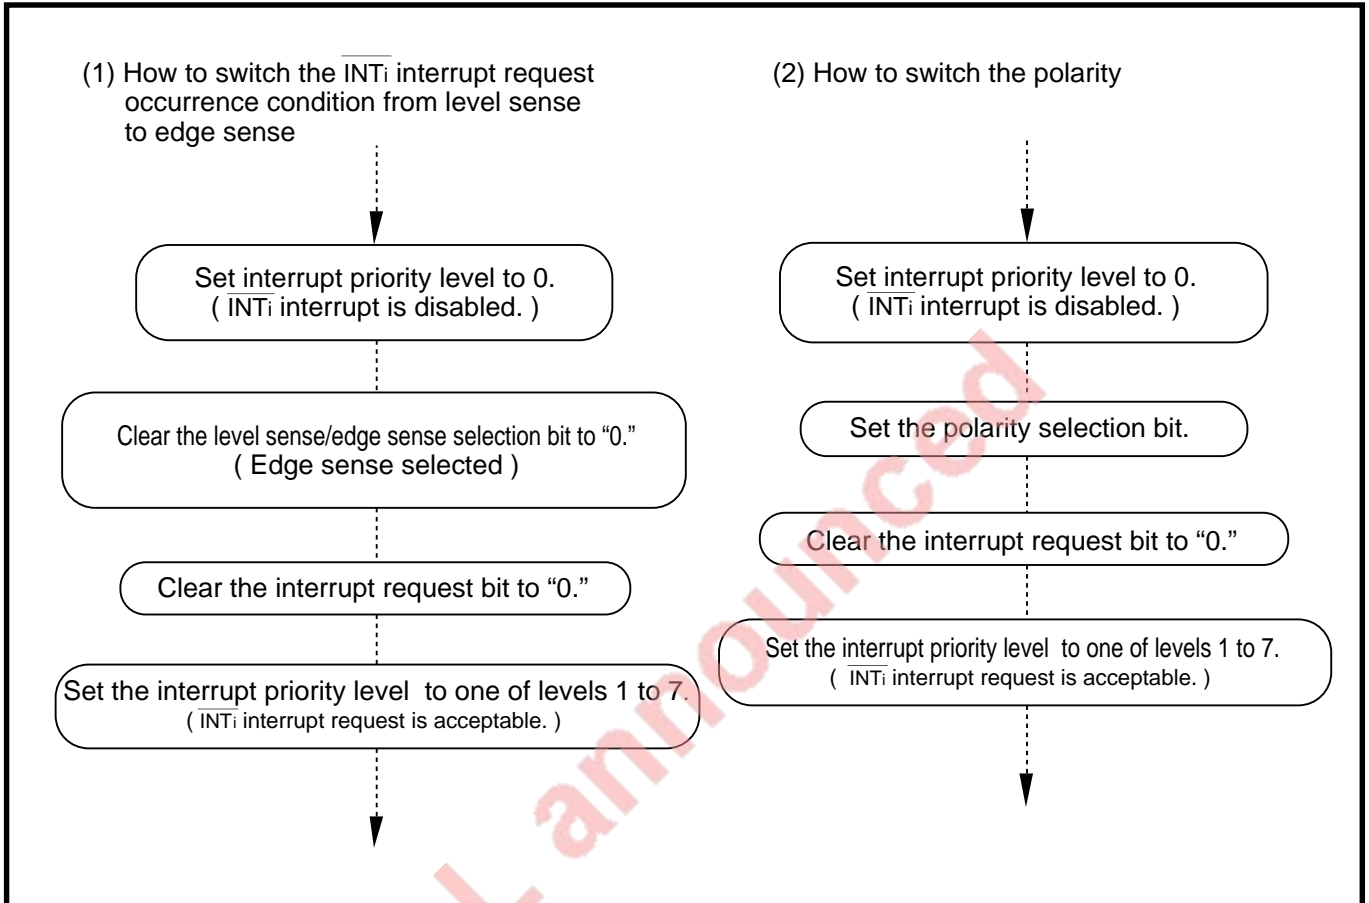

Fig. 4.10.5 How to switch  $\overline{INT}_i$  interrupt request occurrence condition
The way to switch the  $\overline{INT}_i$  interrupt request occurrence condition from the level sense to the edge sense is shown in Figure 4.10.5 (1).
The way to switch the polarity is shown in Figure 4.10.5 (2).